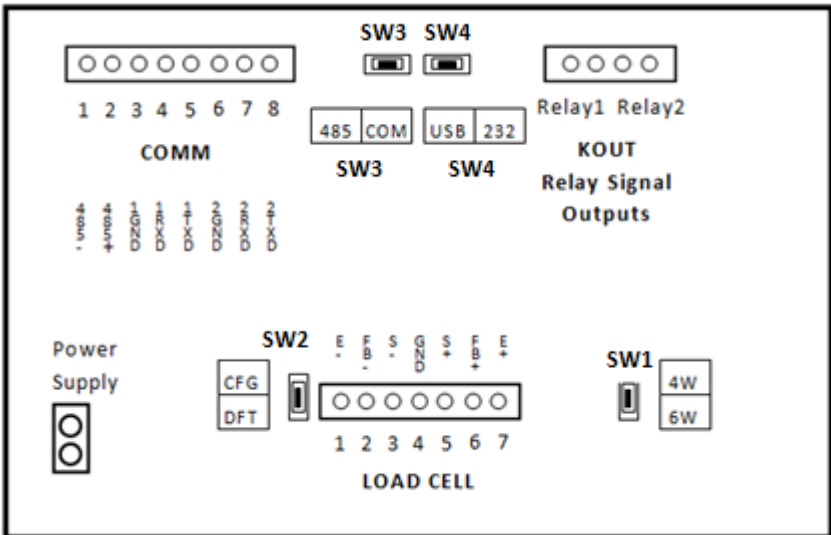

Fig. 8.1 Sockets on Circuit Board for 805TS & 805BS series
When hooking up a printer to the indicators 805TS & 805BS series use connections 2GND, 2RXD, and 2TXD shown in Fig.8.1. To ensure the indicator is able to print on command set the serial mode (F4.3) equal to comm (1).